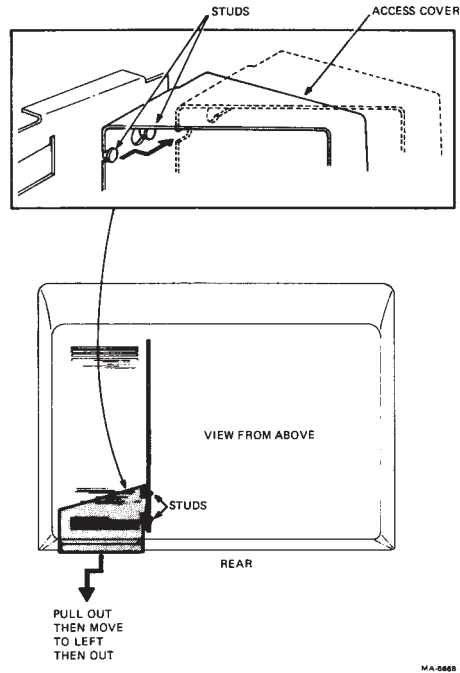
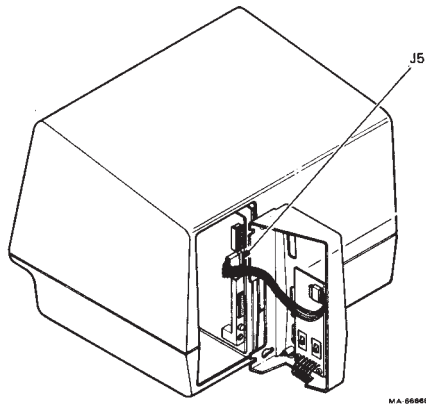

Figure 2-4 Access Cover Removal
Figure 2-5 20 mA Disconnect
6. Loosen the two captive screws holding the access cover. Begin removing the cover by pulling straight back (Figure 2-4). When the access cover is loose, hold it straight and move it to the left in order to avoid the studs on the inside chassis. Pull the access cover straight out. If the 20 mA current loop option is installed, remove the connector from the terminal controller board (J5) as shown in Figure 2-5.